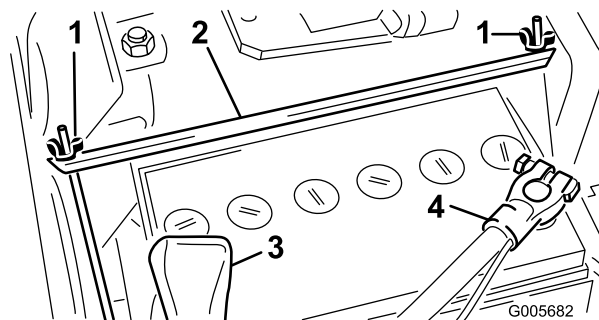
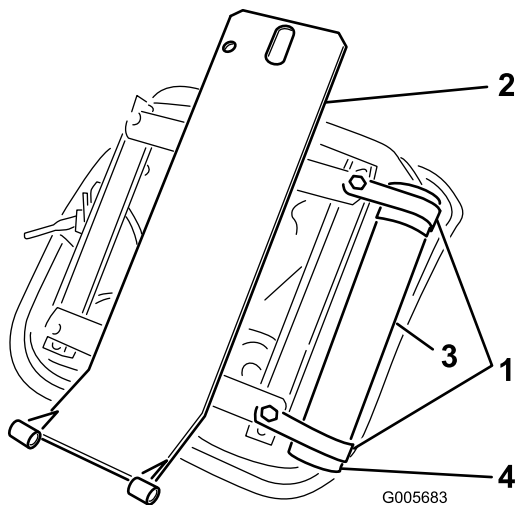

Figure 6
Figure 7
2. Remove two wing nuts and hold down strap that secures battery (Figure 6). Lift battery out of chassis. Keep wing nuts and hold down strap in safe place for later use.
in kit (Fig. 6). Install manual tube into R-clamps and tighten capscrews (Figure 7).